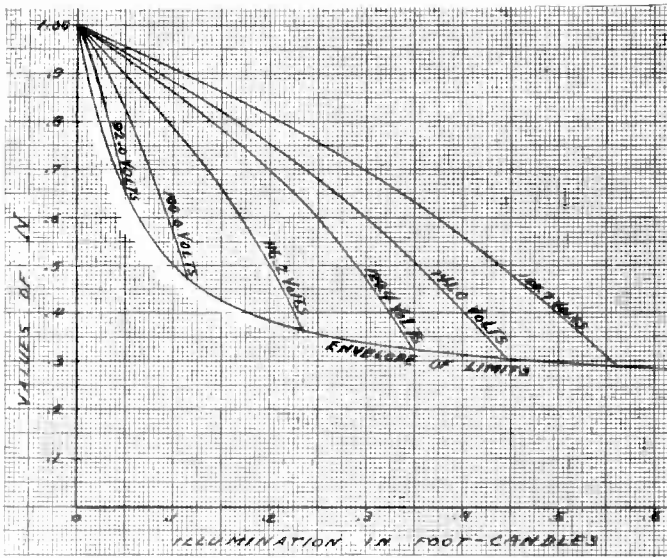

FIG. 4
Fig. 4 illustrates the characteristics indicated in point (6) with respect to the applied potential. It is clearly seen that as the potential increases, the corresponding values of the frequency ratio ( $N$ ), decrease, indicating a greater frequency change. The frequency ratio ( $N$ ) is the ratio of a given frequency to the frequency under zero illumination. A very interesting curve is obtained by joining the values of the frequency ratios ( $N$ ) at the limiting values of radiation at different voltages. This curve, indicated in Fig. 4 as the envelope of limits, is very nearly an equilateral hyperbola.
Fig. 4 also shows that the sensitivity decreases as the potential is increased, as stated in point (5).
The characteristic indicated in point (4) is brought out in a striking manner by the following determinations: with an applied potential of 139.2 volts, in order to decrease the frequency to 75 percent of its value under zero illumination, and with 27.0 megohms value for the resistance 5, it is required an illumination of 0.198 foot-candles, as obtained from Fig. 4. With the same voltage of 139.2, but with a resistance value of 11.9 megohms, the required illumination for the same decrease in frequency (to 75 percent of the dark value) is of 0.439 foot-candles. Under the same conditions, if the resistance is further lowered to 9.2 megohms, the required